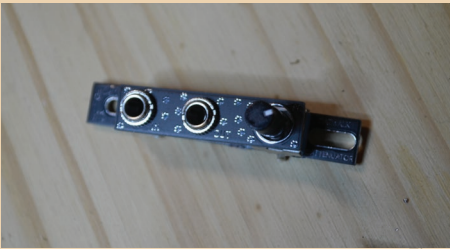

Fig. 2
2. If needed, remove the nuts on the jacks, and put the top faceplate in place. Screw the jacks nuts on to secure the faceplate. [Fig 2.]